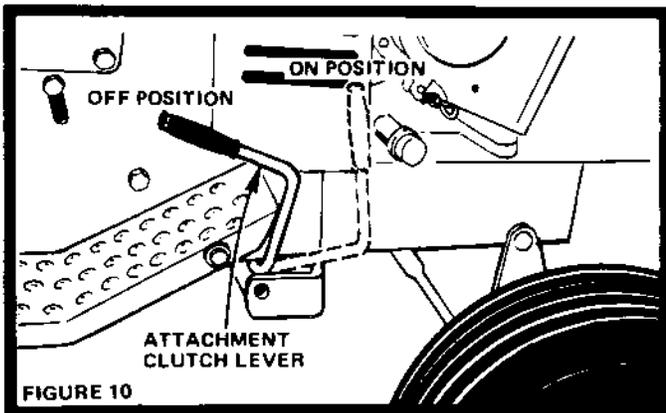

FIGURE 10
2. Place Attachment Clutch Lever in "OFF" position (Fig. 10).